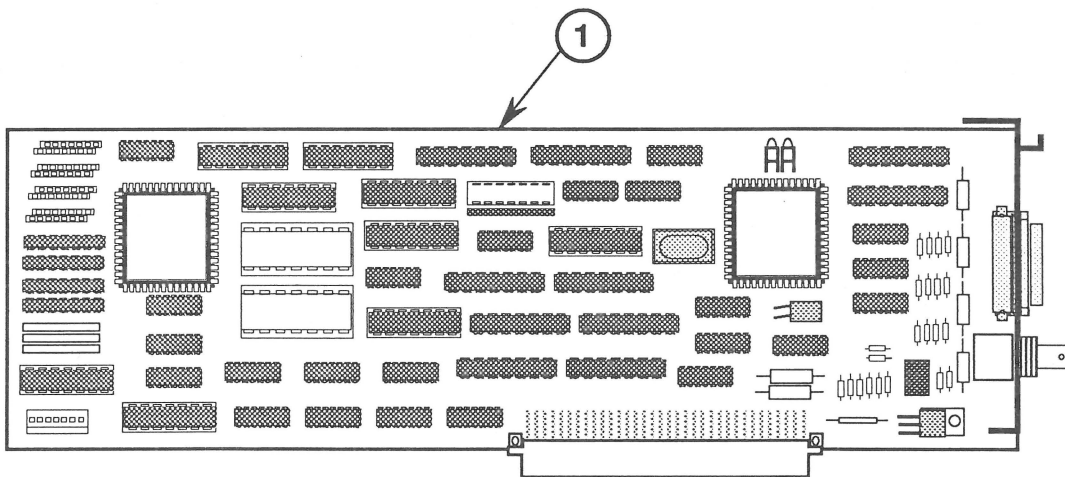

FIGURE 2
- IPL.3 Apple Coax/Twinax Card (Figure 2)
APPLE COAX/TWINAX CARD (Figure 2)